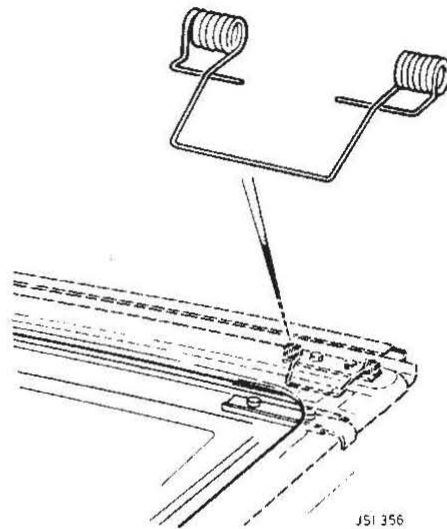

Fig. 2
4. Lift the panel clear of the vehicle by pulling forward to release the two spring clips at the rear of the panel, Fig. 2.